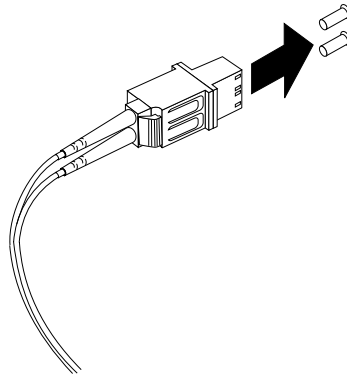

Figure 22. Removing the LC-SC cable adapter protective caps
3. Remove the two protective caps from the LC connector end of the LC-SC cable, as shown in Figure 22. Save the protective caps for future use.